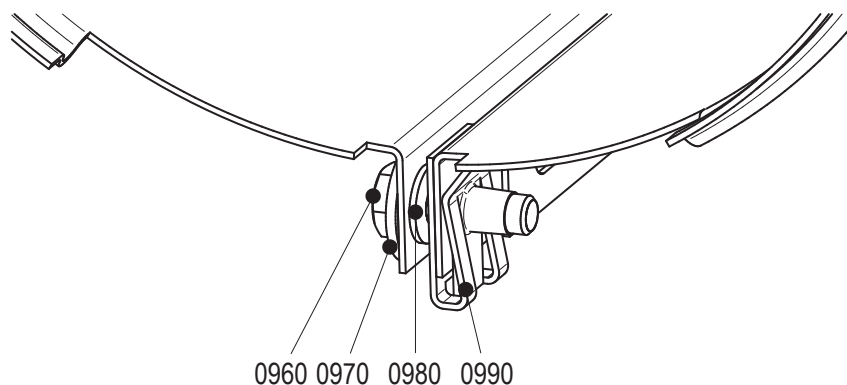

Figure 20: Fitting jacket.
- 1 Loosen bolts (0960). See figure 20.
- 3 Close the jacket and fit bolt (0960). See figure 20.
- 5 Close the jacket and fit bolt (0960). See figure 20.